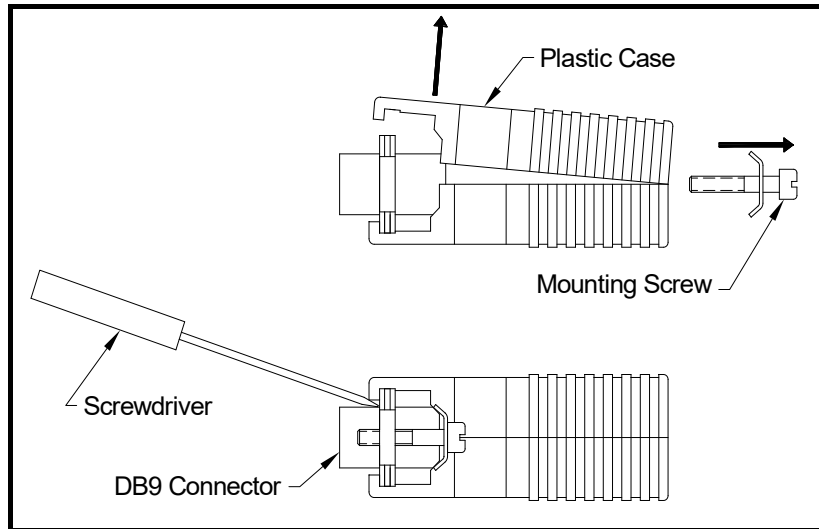

Figure 6-2: Opening the Converter Case
- Use a small screwdriver to pry open the *plastic case* of the serial interface converter, as shown in Figure 6-2 on page 6-6.